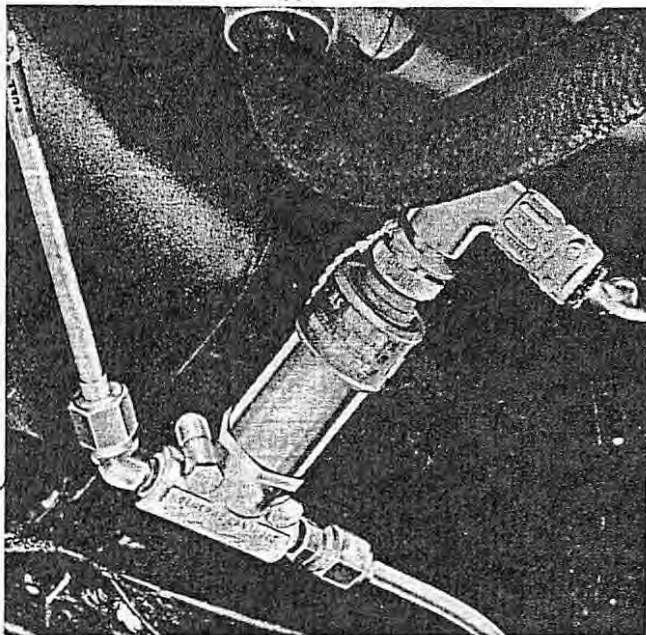

Figure 5-29. Primer Solenoid
- Unsafety and remove electrical connection (figure 5-29).